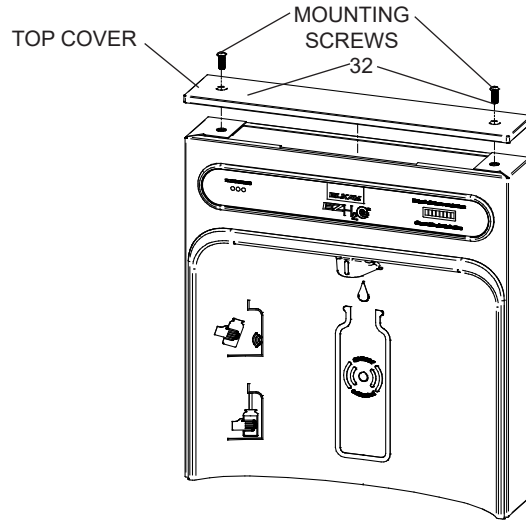

Figure 2
1. Remove two (2) mounting screws holding top cover to bottle filler with a 5/32" (4mm) Hex Key (See Figure 2). Remove top cover. Note: Do not discard mounting screws; they will be needed to re-install top cover.
9. Once bottle filler is installed on wall plate tabs, waterline, wires, and power cord are installed properly, push top of bottle filler toward wall and line up two (2) holes on top cover.
10. Re-install top cover on bottle filler (See Figure 2) with two (2) mounting screws from step 1 above. **Caution:** Do not over tighten screws.